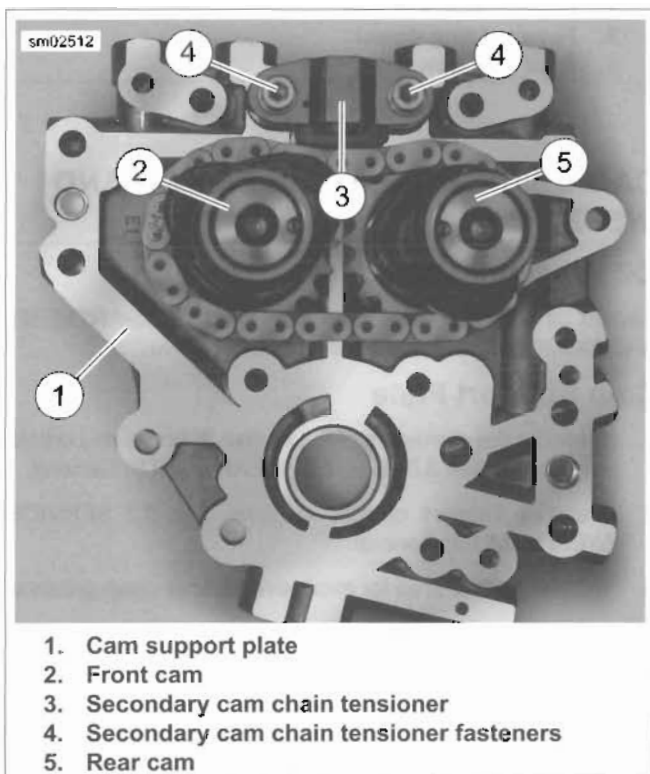

Figure 3-95. Camshafts
1. See Figure 3-95. Remove screws (4) and remove secondary cam chain tensioner (3).